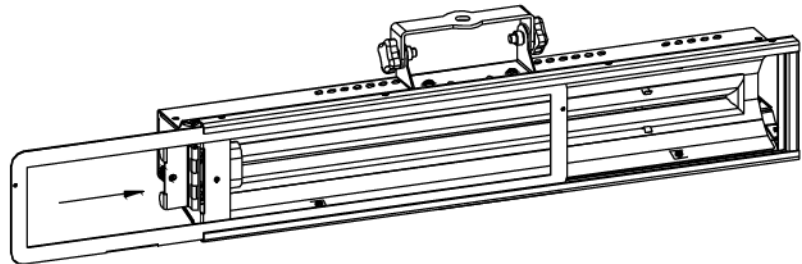

Figure 9
2. Insert accessory into the track (see Detail A) and slide it forward until it stops (Fig. 9).